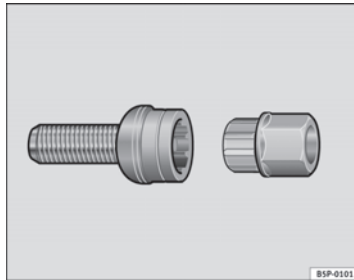

Fig. 174 Anti-theft wheel bolt
- Insert the adapter onto the wheel bolt and push it on as far as it will go ⇒ Fig. 174.